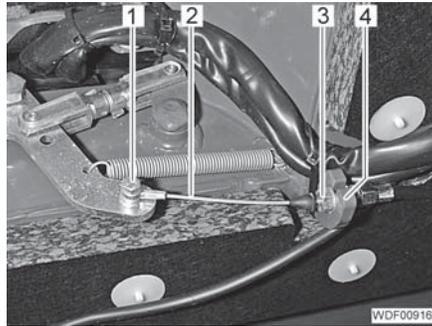

Fig. 93 Front attachment of the Bowden cable
- Unscrew the screw (Fig. 93,1).
- Undo the nut (Fig. 93,3) and remove the Bowden cable (Fig. 93,2) from the mount (Fig. 93,4).
- Insert the Bowden cable (Fig. 93,2) into the mount (Fig. 93,4) and tighten the nut (Fig. 93,3).
- Insert the screw (Fig. 93,1) with the washer and tighten so that the eye is rotatable.